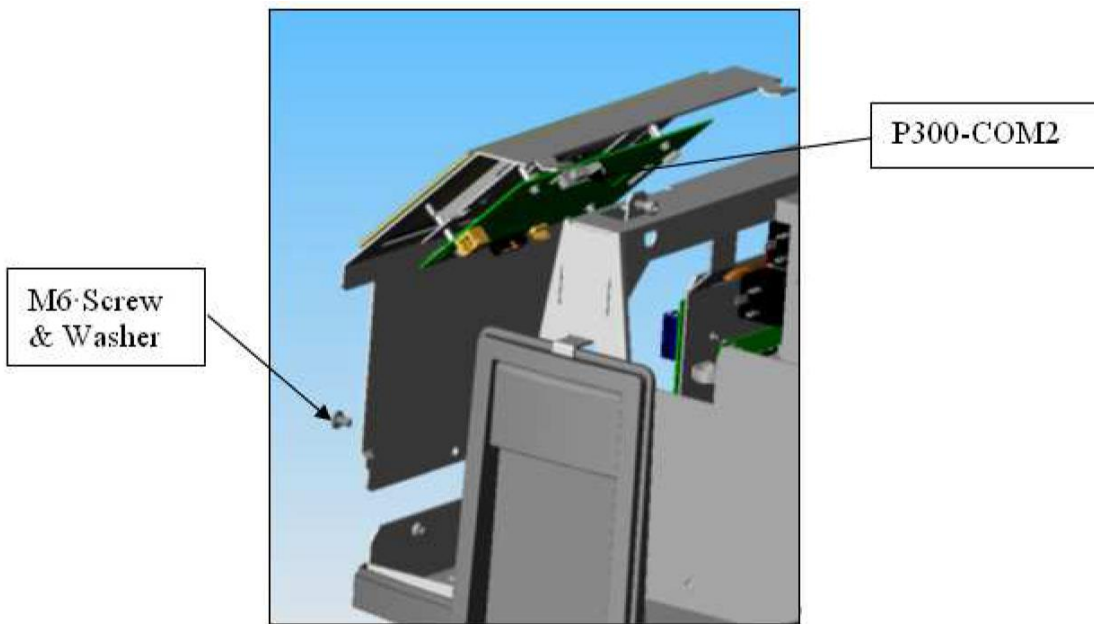

Figure 7: Front Panel Display
- 14) Remove the M6 screw and washer from the front panel display and detach the display (Figure 7: Front Panel Display).